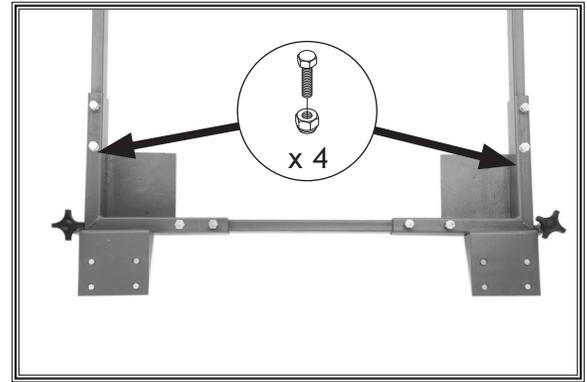

Figure 15. Rails fastened to brackets. (Machine removed from assembly for clarity.)
- Slide the other pair of rails that are of identical size into the ends of the corner brackets from **Step 5**, then fasten with (4) M8-1.25 x 16 hex bolts, and 8mm lock nuts, as shown in **Figure 15**.